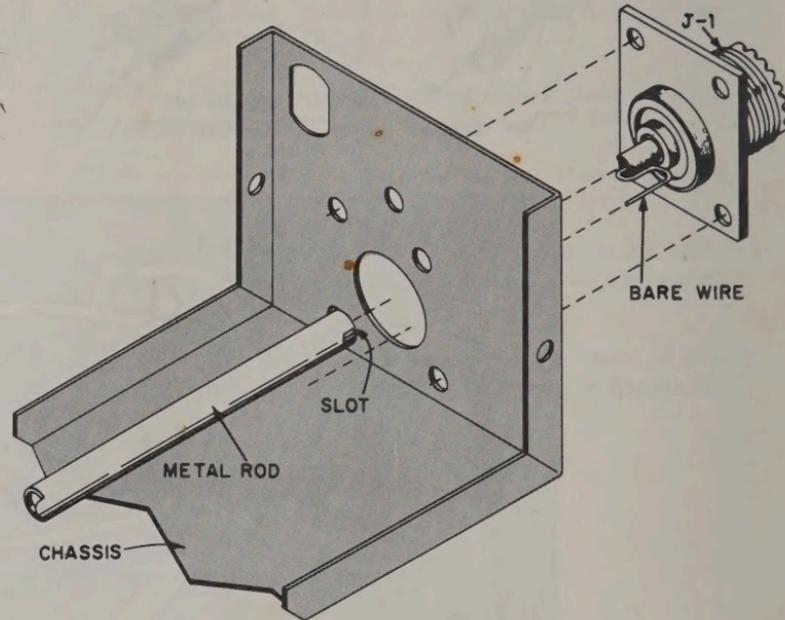

FIGURE 5. COAXIAL CONNECTOR MOUNTING
- Cut a 1½" piece of the small bare wire. Solder one end of the wire to J-2. Bend the other end of the wire as shown on J-1 in Figure 5.